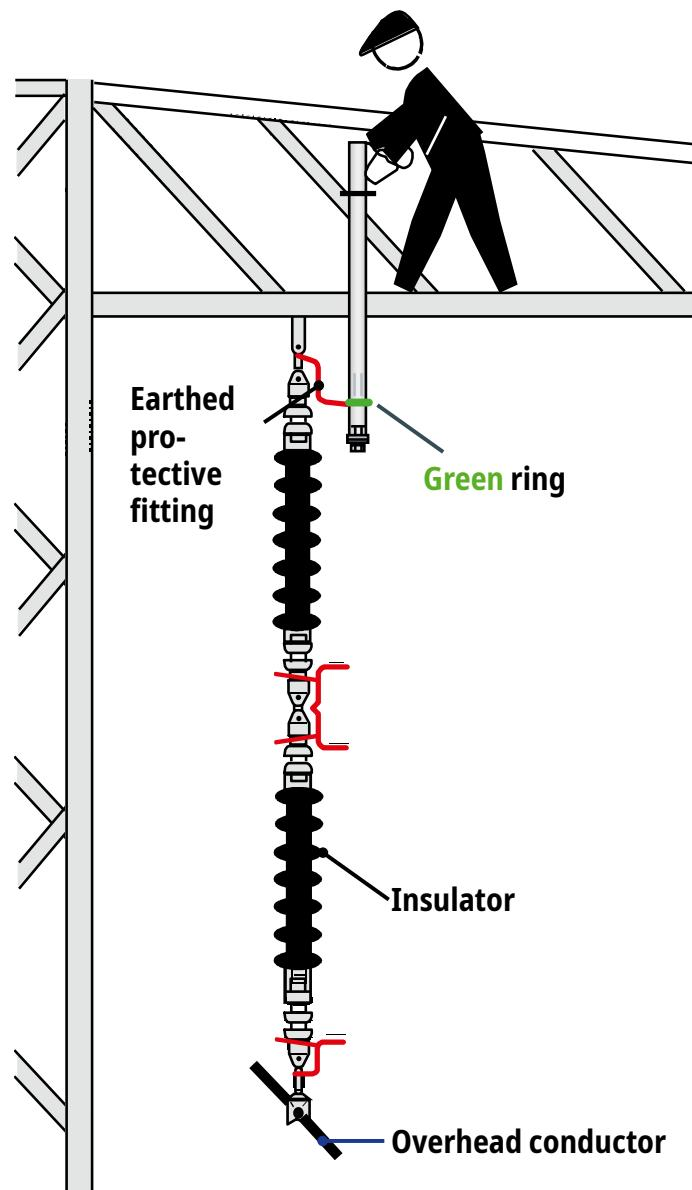

Figure 6 Application example: mast cross-arm (without extensions)
- The operating head must be pointed towards the part of the installation to be tested for its voltage state (figure 6).